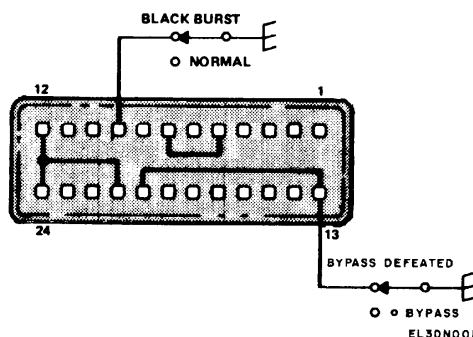

Figure 1. Video signal source remote plug wired for Automatic Video Corrector calibration
c. The remote plug P9014 on video signal source (A6) must be modified to allow sync and phase lock of the Fuel Field signal while using a black burst synchronizing signal. Figure 1 shows wiring details to provide this function.